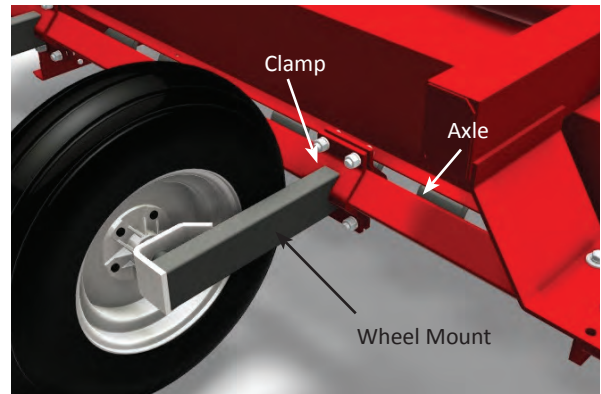

Figure 3: Wheel Mounted on Axle
4. The wheel spacing on the left and right should be the same distance from the center of the Shredder for proper operation, shown in Figure 3.